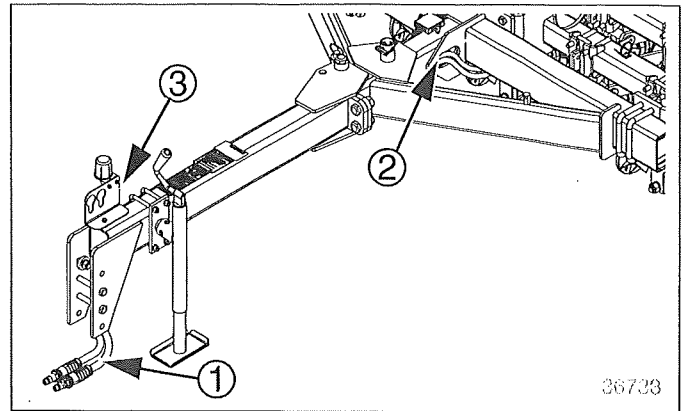

Figure 8
*Refer to Figure 8*
1. Route the hose bundle ① under the rear cross-tube of the tongue, into the access hole ②, and out the front of the tongue tube near the hitch.